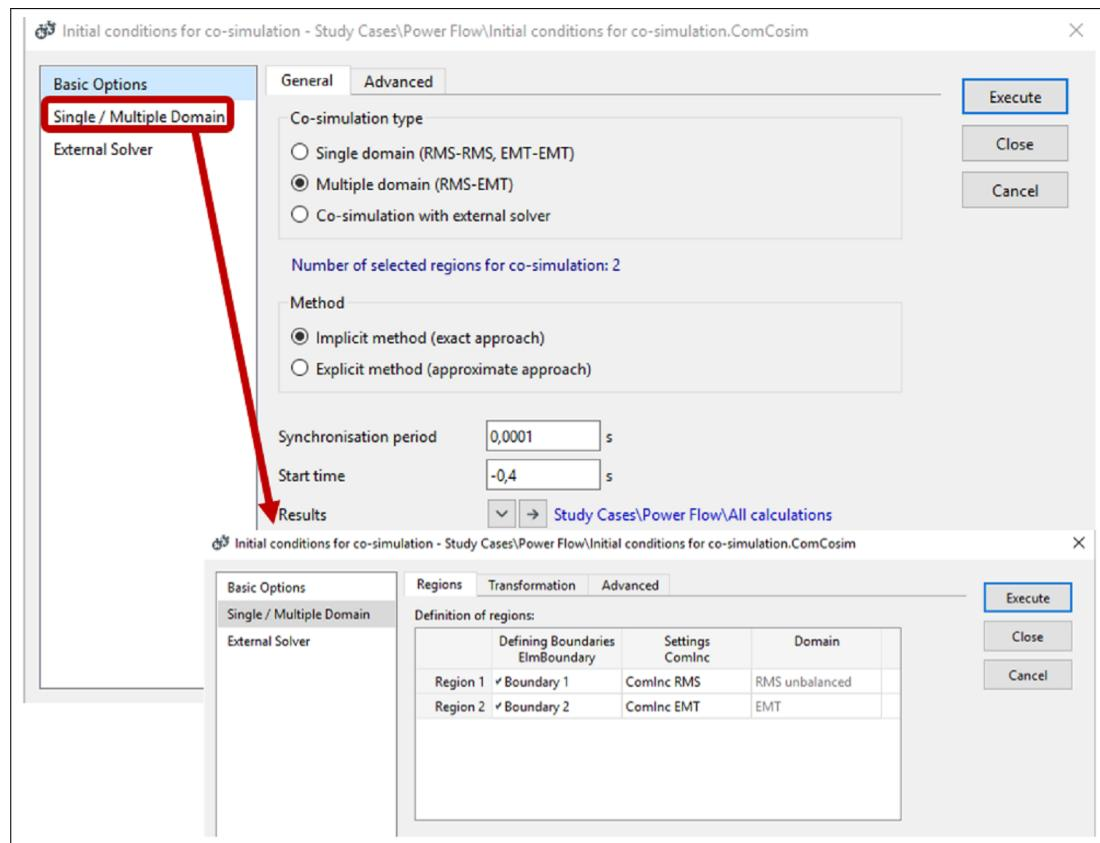

Figure 29.10.2: Co-simulation configuration options (example)
- **Configuration of simulation options** is done via the *Initial conditions for co-simulation* by editing the default *ComInc* command (in the case of single domain co-simulation) or by assigning individual *ComInc* command objects for each *region* (in the case of multiple *domain* co-simulation). A user-defined common synchronisation period can be configured in the *ComCosim* command which will define the rate by which *regions* are synchronised across the co-simulation interface(s). Based on the two area example above, a multiple *domain* co-simulation could be configured as shown in figure 29.10.2